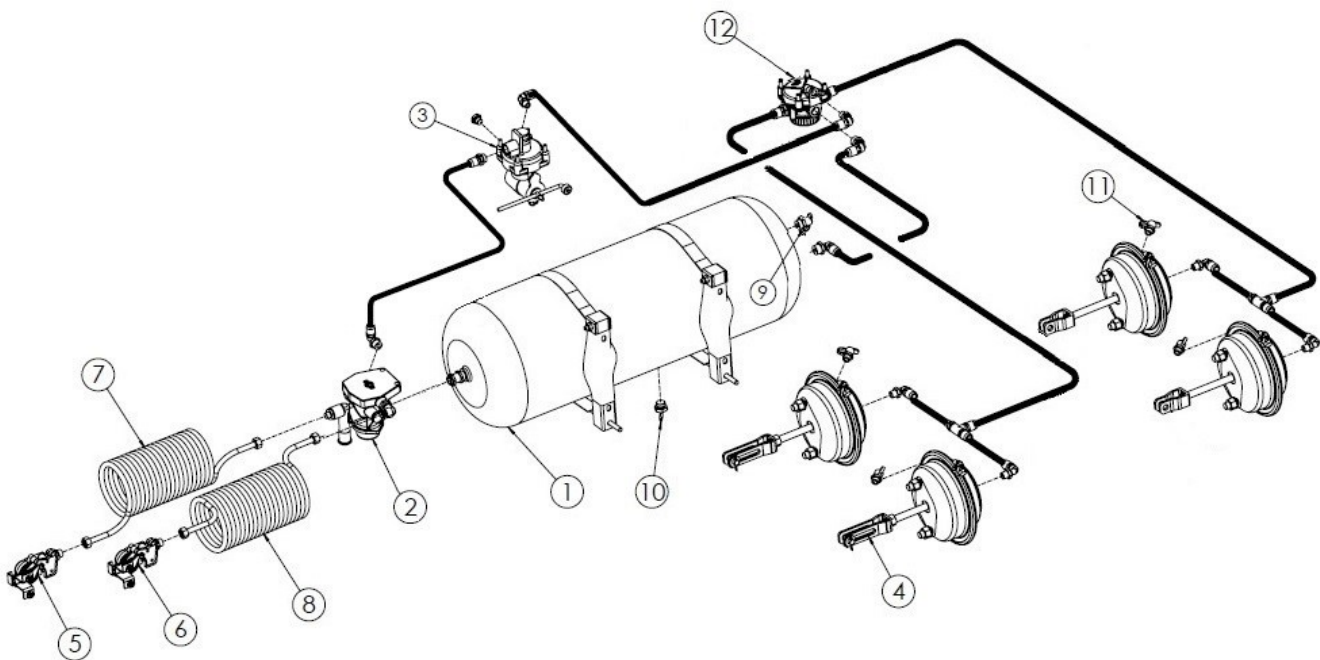

Figure 11 The 2-Line pneumatic braking system with ALB
- two-line pneumatic system with ALB valve (Figure 11)
Optionally, the spreader can be equipped with a 2-wire pneumatic brake with ALB (with automatic brake-force control) - Figure 11. The brake is activated from the driver's seat by pressing the tractor's brake pedal. The pneumatic control valve (2) enables the spreader's brakes simultaneously with the tractor's brakes. In the event of an accidental line disconnection (5) and (6), the control valve automatically applies the brakes of the machine. The ALB system features a valve (3) which automatically and continuously adjusts the braking force on the spreader wheels according to the load level of the structure.